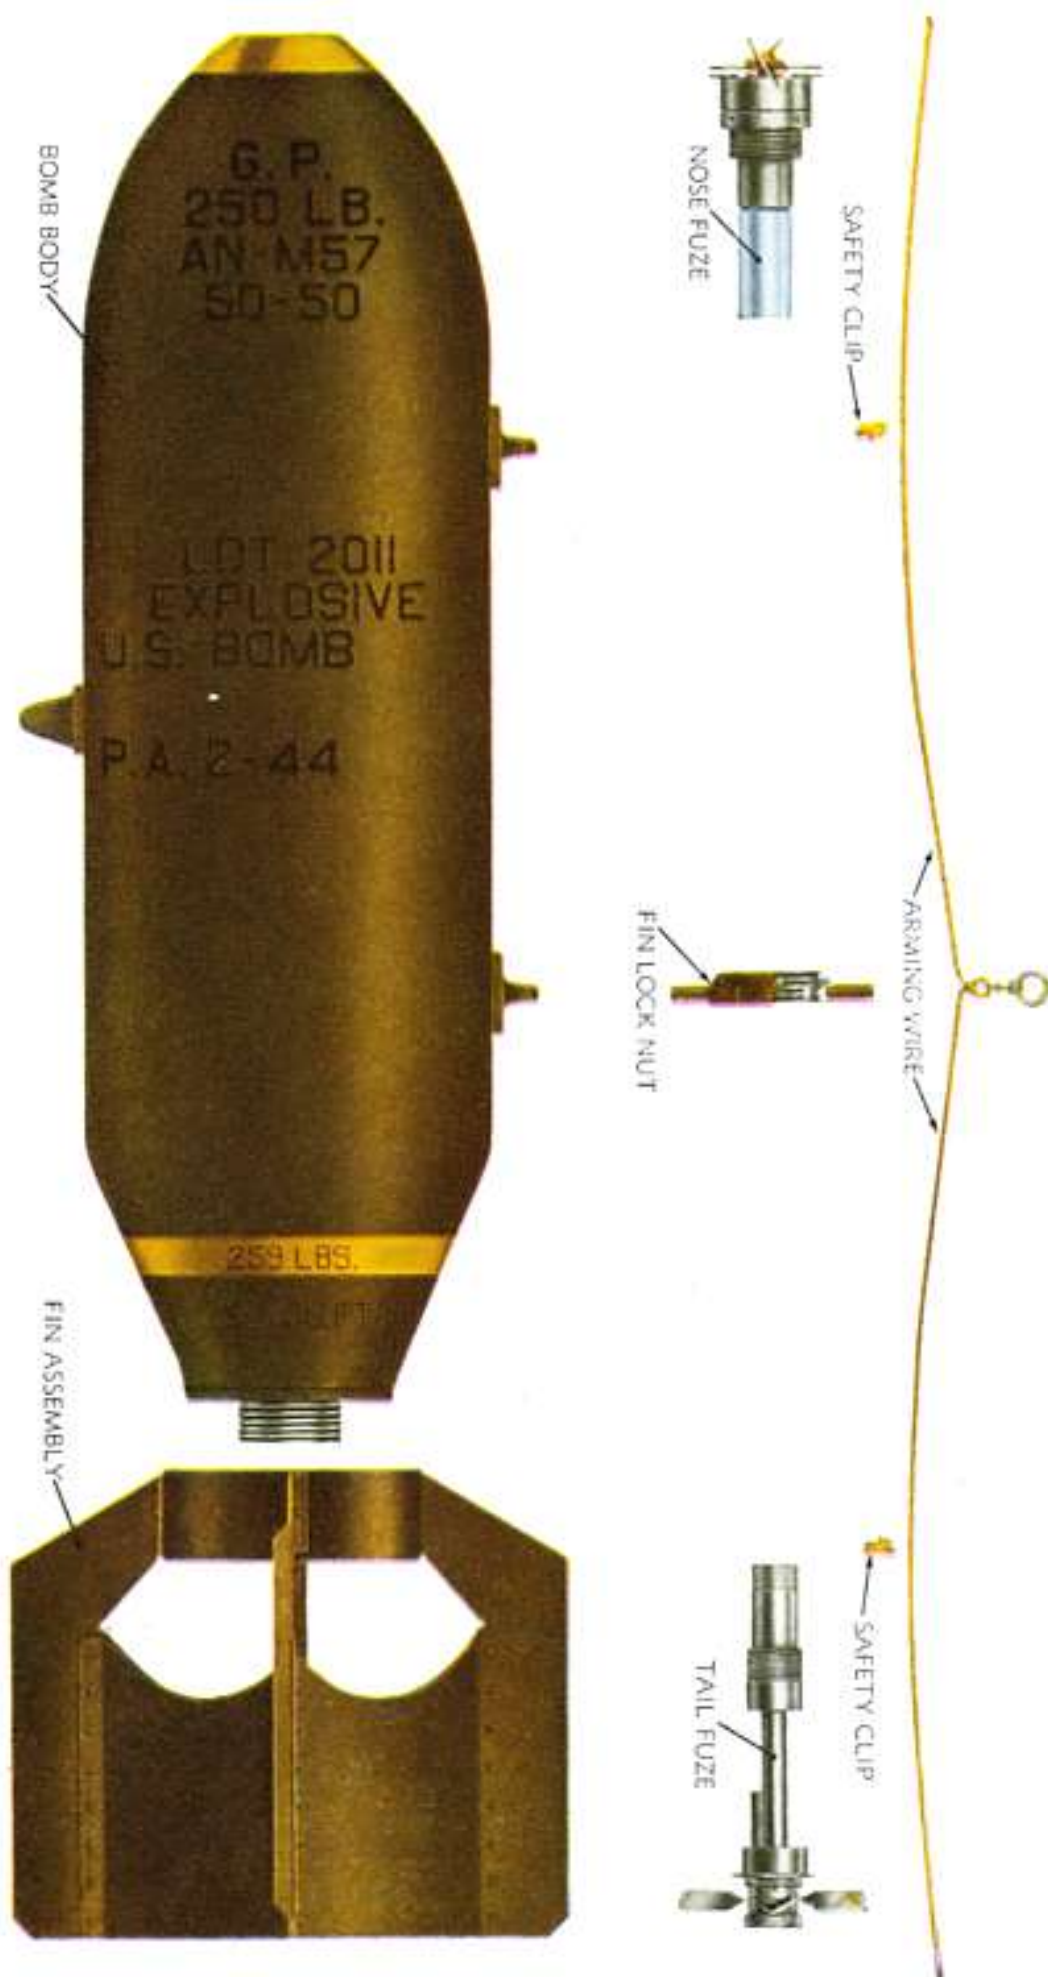

Figure 38. Complete round components.
20. COMPONENTS. *a. Complete round.* The components (fig. 38) of a complete round are, in general, as follows: